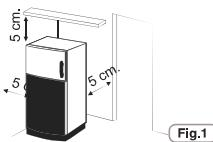

Fig.1
- 1 Make sure that the space around the refrigerator is adequate for ventilation. The illustration (fig. 1) shows the minimum space required for the installation of the refrigerator. Maintaining a wider space from the wall, results in reduced electrical energy consumption. The use of the refrigerator in a space the size less than those indicated in the illustration below (fig. 1) could result in improper operation, loud noises and breakdowns.